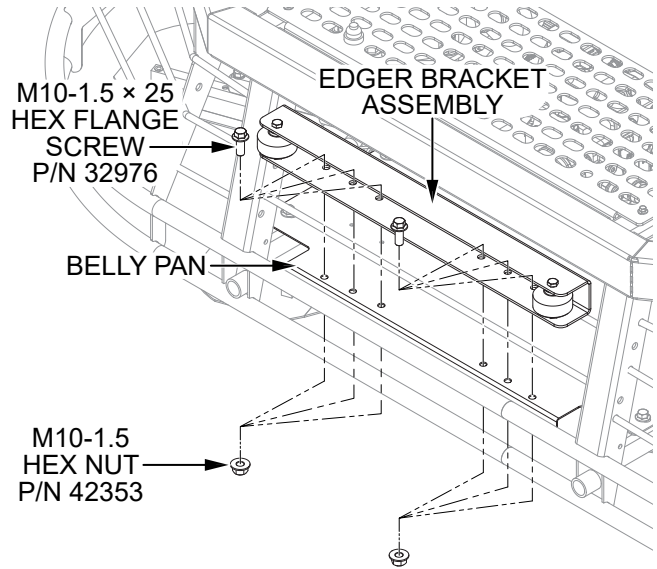

Figure 3. Install Edger Bracket Assembly
2. Secure the edger bracket assembly to the front belly pan using the two M10-1.5 x 25 hex flange screws (P/N 32976) and two M10-1.5 hex nuts (P/N 42353). Choose the mounting holes that correspond to the edging distance you prefer. See Figure 3.